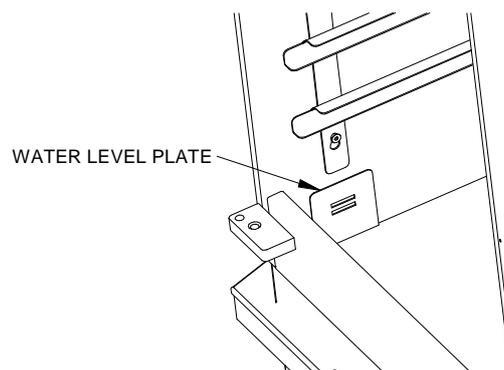

Fig. 4
- Check water level is between indicator marks (see Fig. 4).
- Push in the control knob (6) then rotate **anti-clockwise** to the "pilot" position.
- Ignite the pilot by depressing the piezo ignition switch (5).